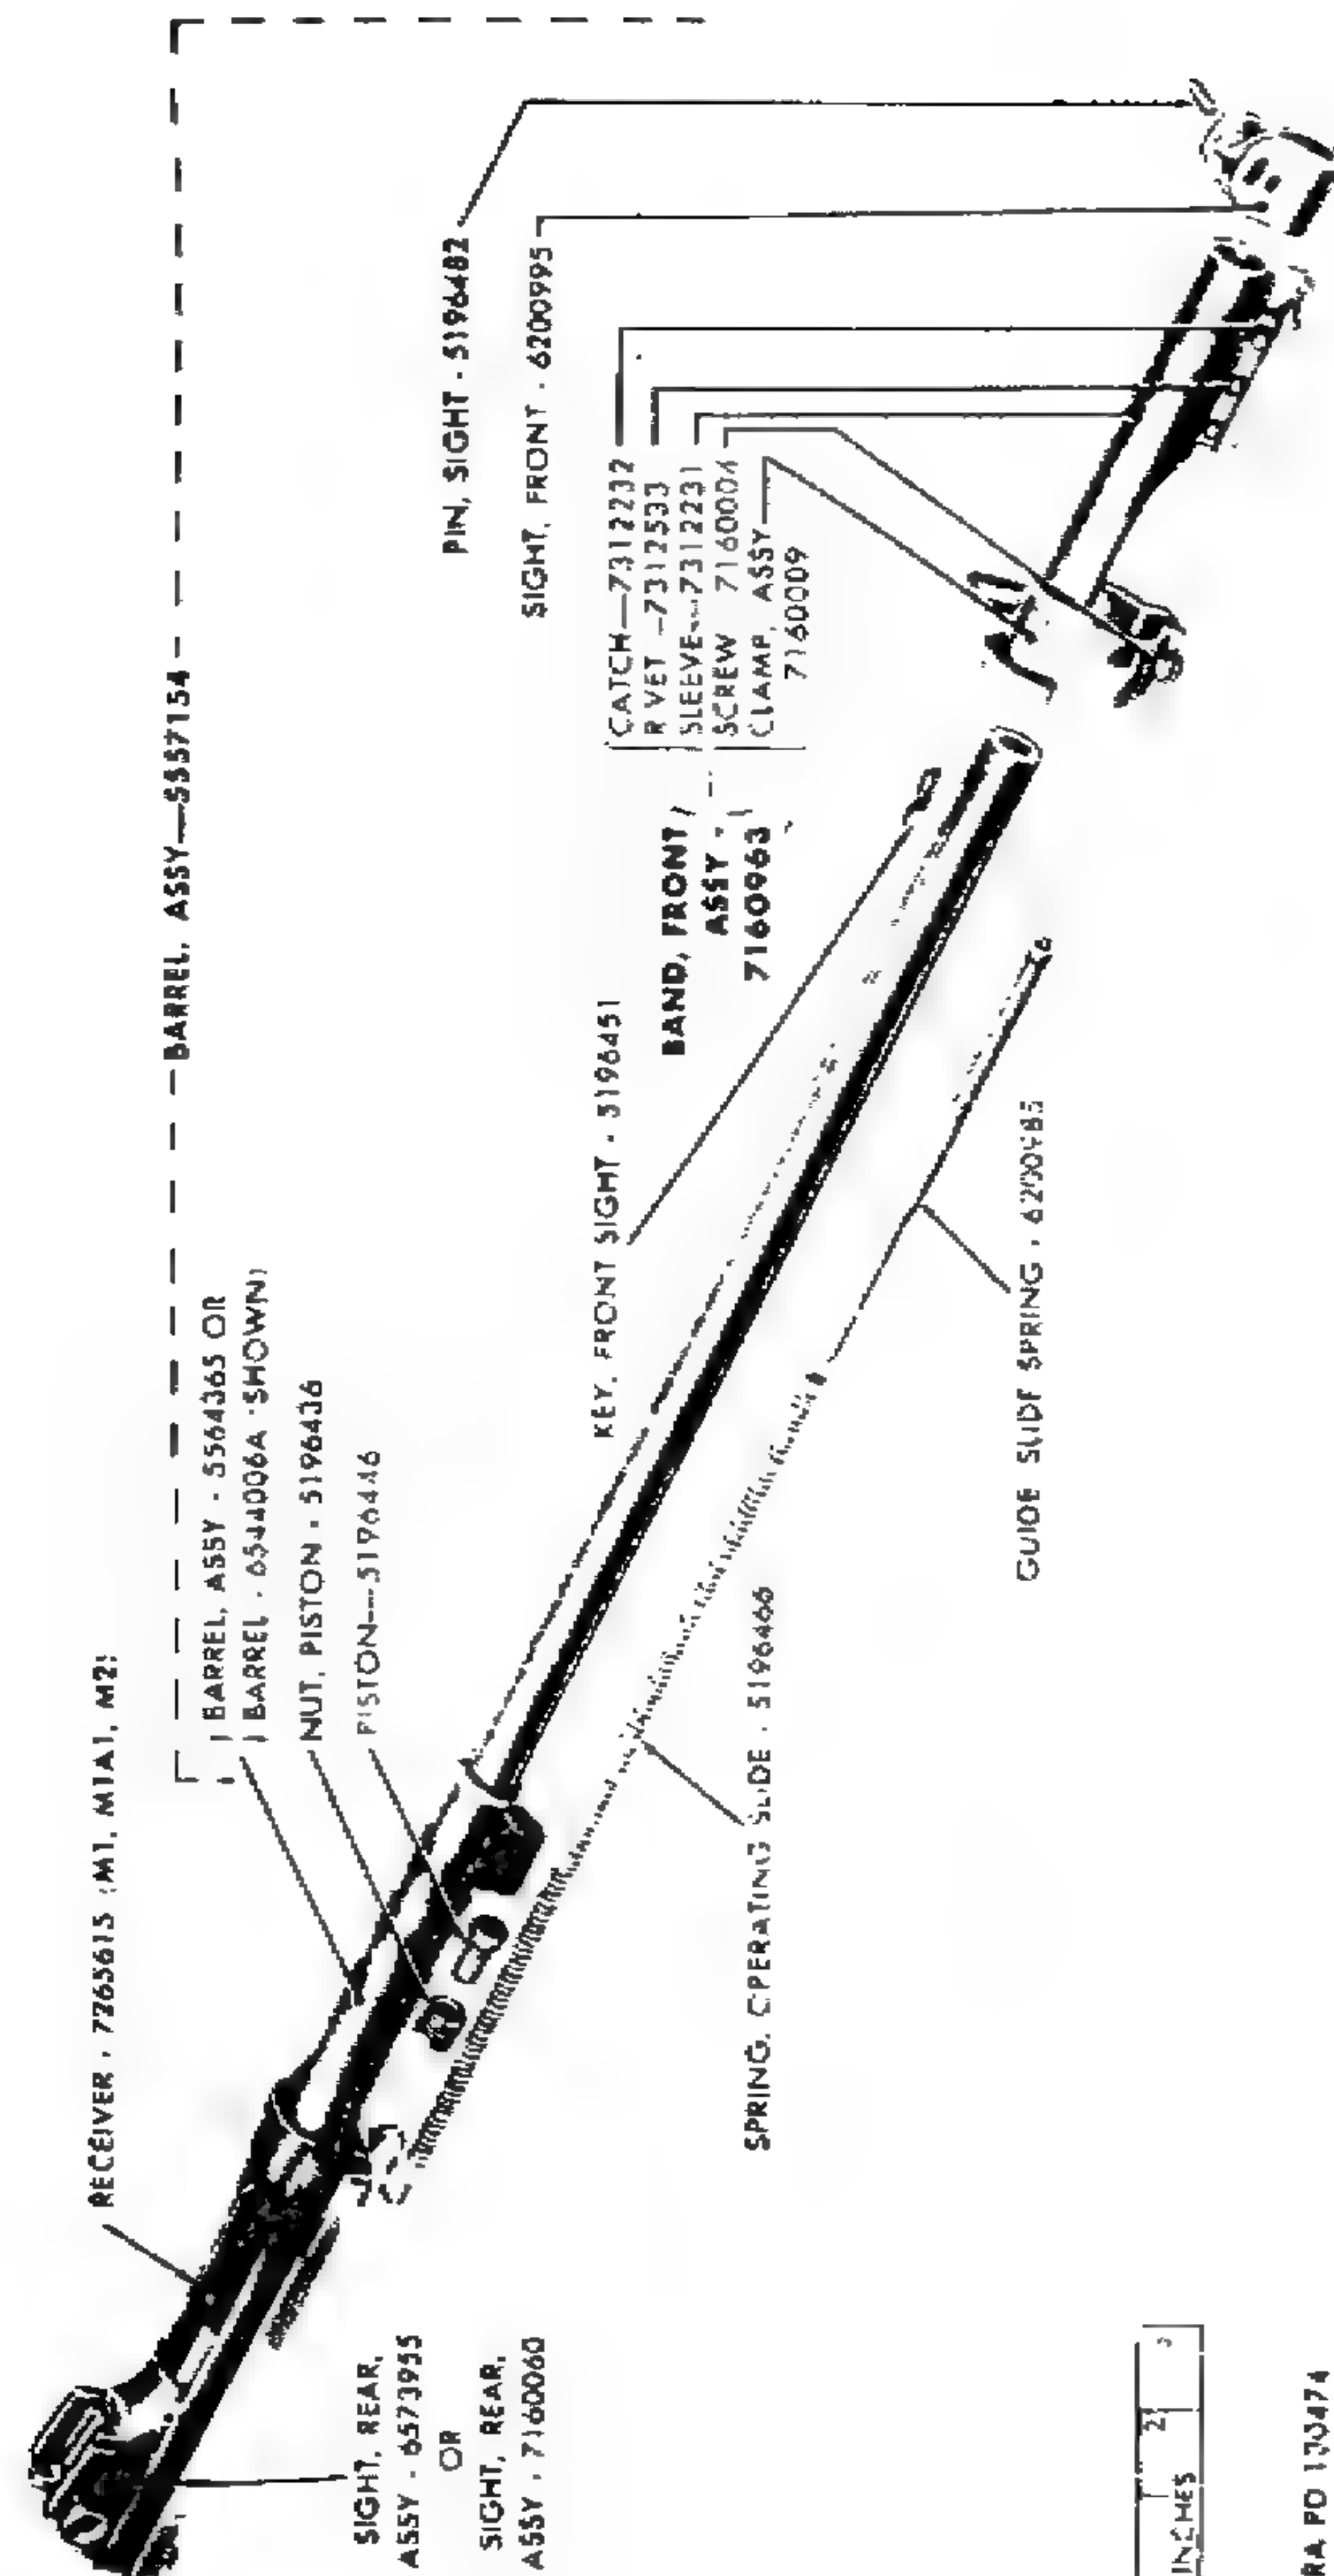

Figure 74. Barrel and receiver group M1, M1A1, M2 carbines.
- (3) The gas cylinder may be integral with the barrel, or swaged on the barrel at manufacture. Do not remove the gas cylinder. If gas cylinder is unserviceable, barrel assembly should be replaced (DEPOT MAINTENANCE ONLY).
a. Receiver (figs. 74 and 75).